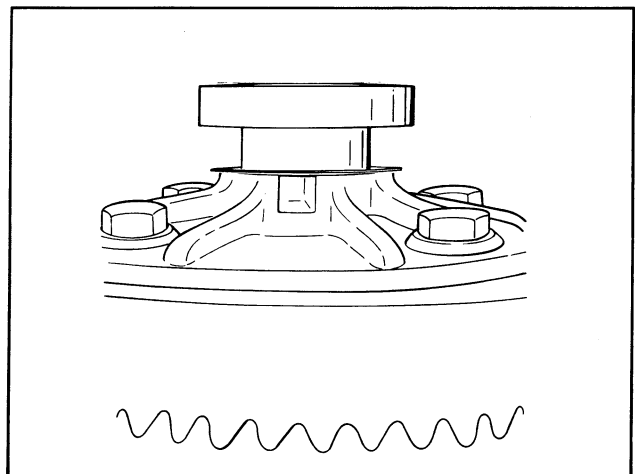

Figure 31 – Pressing on Differential Bearings
- e. When installing new differential bearings (8 or 3), original shims (11) may be reused in their original location if they were not damaged during disassembly. If new shims are used, be sure they are the same thickness as originals. Press on inner race of bearing only. See Figure 31.